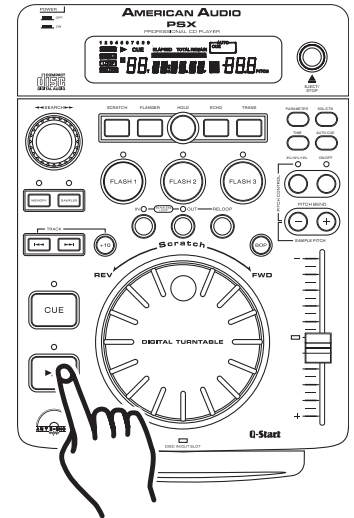
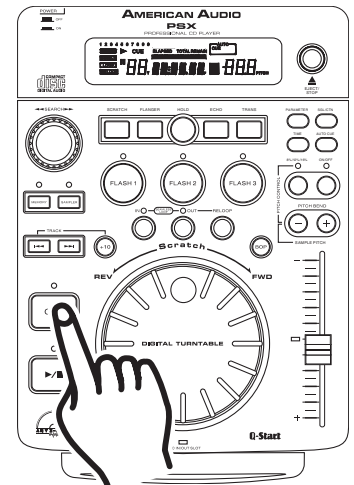
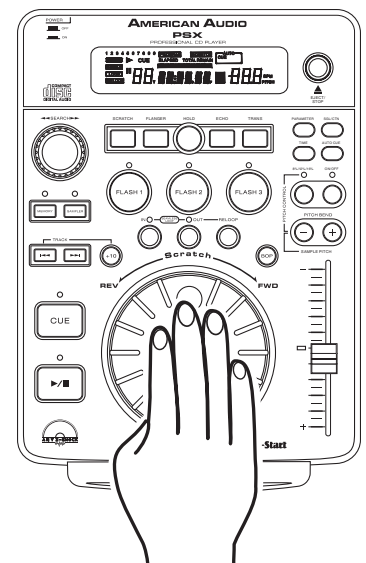

Figure 11
Figure 12
Figure 13
3. STARTING PLAYBACK - *Figure 11*
5. STOPPING PLAYBACK - *Figures 11 & 12*
- 1) Press the *PLAY/PAUSE BUTTON* (15) during playback. This will pause playback at the exact same point the *PLAY/PAUSE BUTTON* (15) was pressed.
- 2) Press the *CUE BUTTON* (13) during playback. This will pause playback and return the track to the last set cue point.
6. PAUSING - *Figure 11*
This feature allows you to scroll through a track frame by frame, allowing you to find and set a starting cue, sample, or loop point. To use the scroll function you must first be in Pause Mode (see section 5) or Cue Mode (see section 7). Once you are in Pause or Cue mode, turn the *JOG WHEEL* (14) to scroll through the track (Figure 13). Turning the wheel in a clockwise direction will advance the frame search and turning the wheel in a counter-clockwise direction rewinds the frame search. When you use the *JOG WHEEL* (14) the monitor (headphone level) function allows you to here what you are scrolling through. Once you reach your desired starting point you can set a cue (starting) point by pressing the *PLAY/PAUSE BUTTON* (15) as in Figure 11. Pressing the *CUE BUTTON* (10) as in Figure 12 will now return you to the point you just set.
- 3) Press the **OUT BUTTON (18)** to set the ending point for your SEAMLESS LOOP (Figure 13). The **IN BUTTON (12)** and **OUT BUTTON (18)** LEDs will immediately begin to flash rapidly, indicating the SEAMLESS LOOP mode has been activated.
EXITING A LOOP - To exit a SEAMLESS LOOP, press the **OUT BUTTON (18)**. The **IN BUTTON (12)** and **OUT BUTTON (18)** LEDs will remain on, but will stop flashing. Music playback will resume normal play (Figure 13). The **IN BUTTON (12)** and **OUT BUTTON (18)** LEDs will remain on to remind you that a loop is stored in memory.